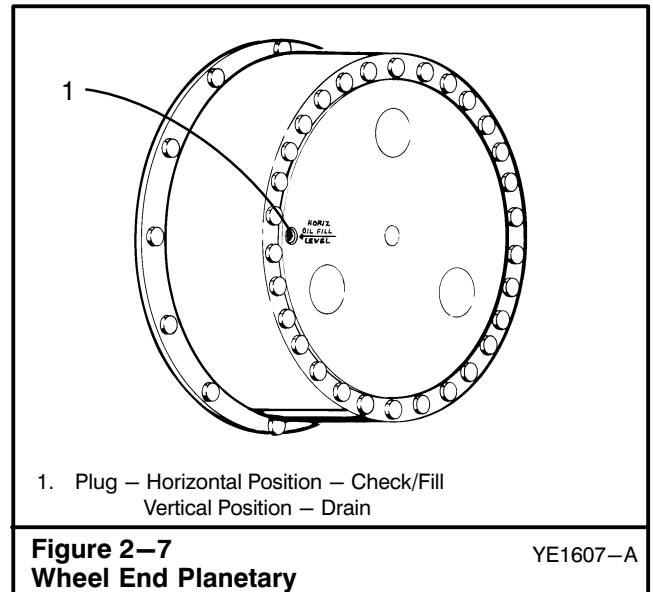

Figure 2–7
2. Locate the drain plug in the bottom of the differential. Refer to Figure 2–5.
6. From the underside if the carrier, locate the check/fill plug on the side of the differential. Refer to Figure 2–5.
8. Fill the differential with oil until it is level with the bottom of the check/fill hole. Refer to Figure 2–6. Refer to the Lubrication Chart for correct quantity and grade of oil.
10. Check and clean the axle housing breathers, located on the top of the rear axle housings. Refer to Figure 2–5.
3. Rotate the wheel end until the arrow next to the check/fill/drain plug is in the horizontal position. Refer to Figure 2–7.
5. Remove the check/fill/drain plug and check the oil level. Oil should be level with the bottom of the hole. Refer to Figure 2–6.
4. Rotate the wheel end until the arrow next to the check/fill/drain plug is in the vertical position with the arrow pointing down. Refer to Figure 2–7.
9. Fill wheel end with oil until it begins to flow from check/fill/drain hole. Refer to Figure 2–6. See Lubrication Chart for correct grade and quantity of oil.
The hydraulic reservoir is used to supply and store hydraulic oil needed to operate all hydraulic functions of the crane. The hydraulic reservoir, as shown in Figure 2–8, is equipped with sight plugs for checking the oil level.
2. Relieve the hydraulic system precharge pressure by pushing the button the pressure relief valve. Refer to Figure 2–8.
2. Relieve the hydraulic system precharge pressure by pushing the button on the pressure relief valve. Refer to Figure 2–8.